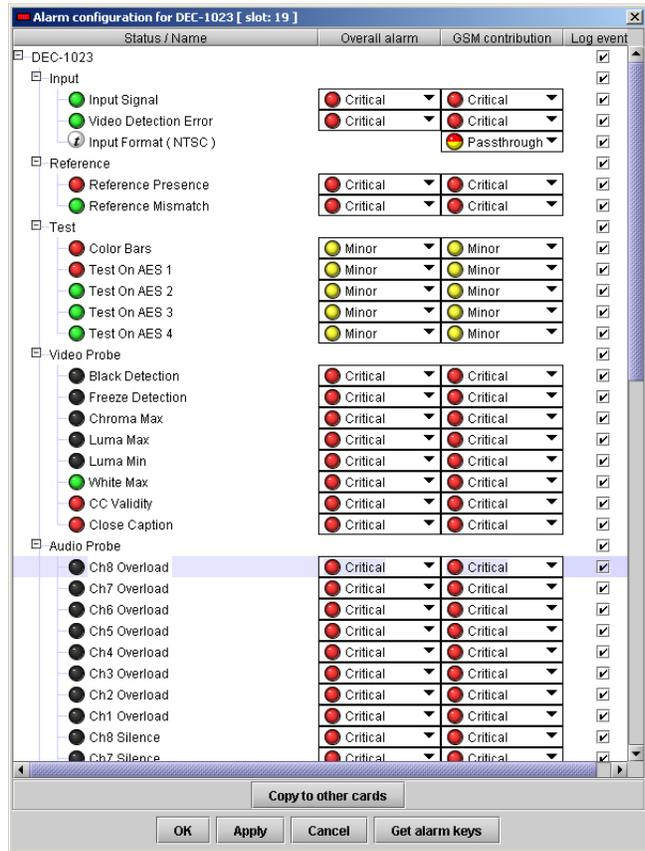

Figure 3.25 Alarm Configuration panel
- Some alarms may be text-only and the alarm status is shown in the name and not by a status icon (e.g. *Input Format* in Fig. 3.25)